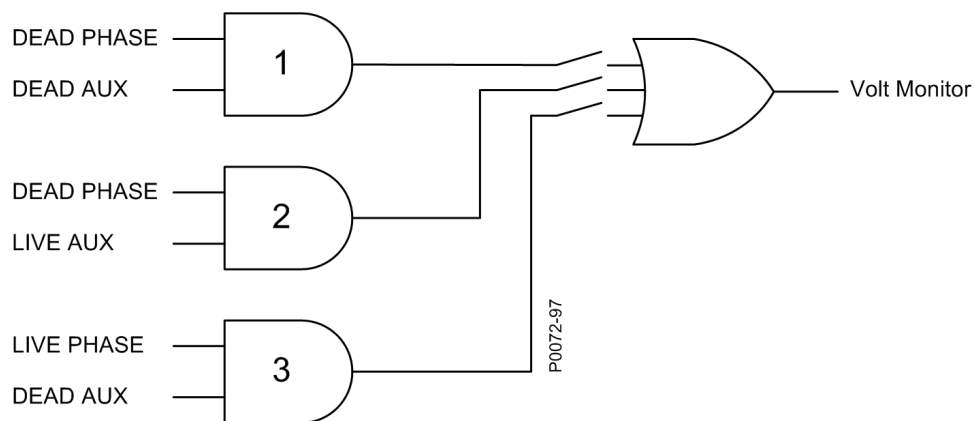

Figure 6-1. Voltage Monitor Logic
The Volt Monitor logic is illustrated in Figure 6-1. Any combination of logic settings can be selected for the Voltage Monitor Logic on the Sync-Check (25) settings screen in *BESTCOMSPlus*. When a logic combination is selected, the sync-check element closes the respective switch in Figure 6-1 associated with each of the outputs.